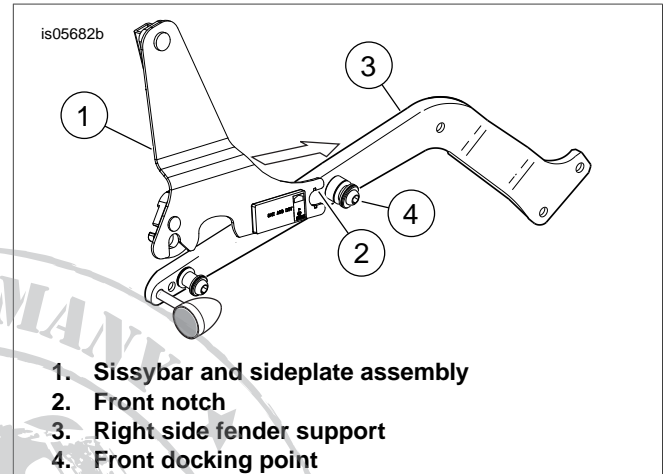

Figure 1. Place Front Notches into Front Docking Points
1. See Figure 1. While standing behind the motorcycle, place the left-side and right-side front sideplate notches (2) into the front docking points (4) on the fender supports (3).